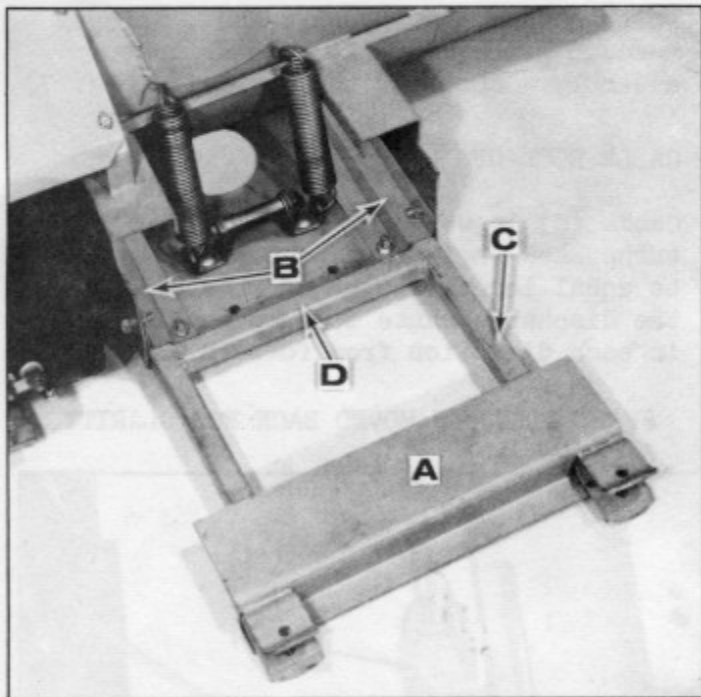

Fig. 2
Place Snow Thrower mounting bracket (A) directly behind the Snow Thrower as illustrated in (Fig. 2. Slide square shaft extensions into mounting pockets (B); slide shaft extensions completely in until contact is made with crossbar (D) on frame (A).